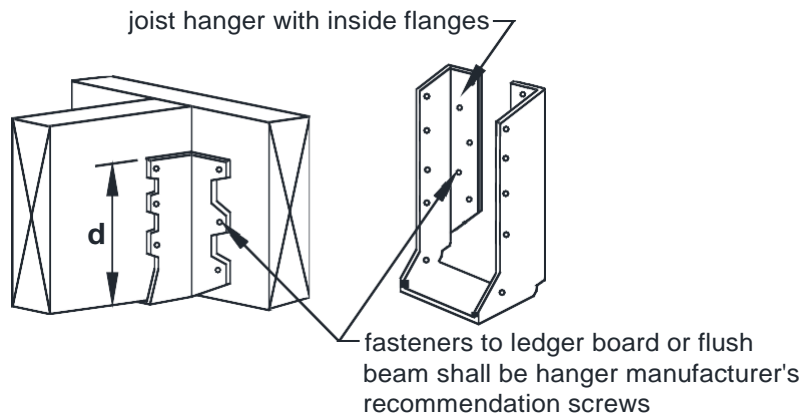

FIGURE 9: JOIST HANGERS
- Joist hanger depth, **d**, as shown in FIGURE 9, shall be greater than or equal to 60 percent of the joist depth.